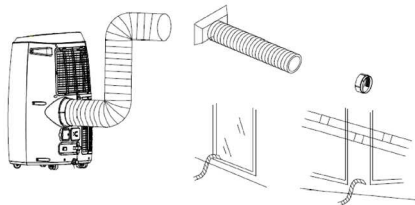

Fig. 7
2. Insert the square fixing clip into the openings on the back of the air conditioner (fig.7)